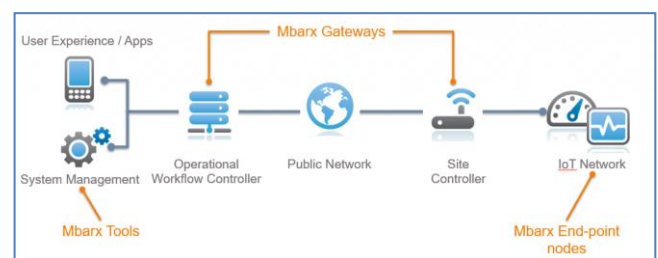

Figure 1 - Mbarx End-points, Tools and Gateways
- Figure 1 - Mbarx End-points, Tools and Gateways3